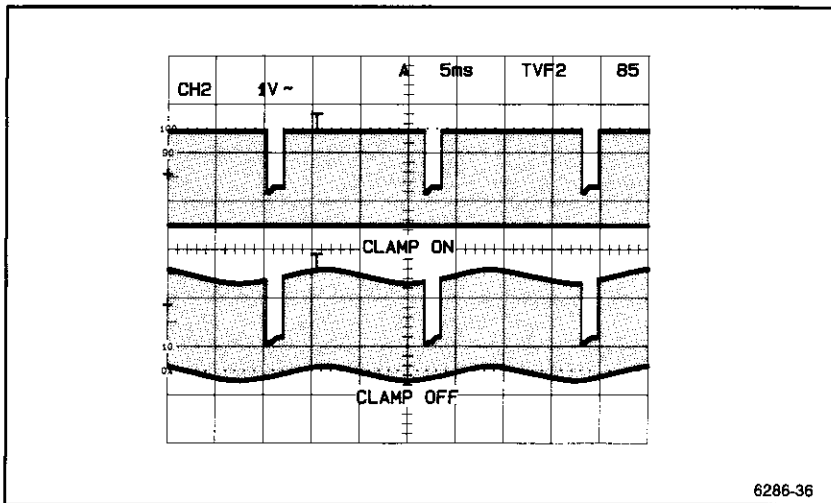

Figure 7-1. Composite Video Signal with and without TV clamping.
- h. With the CH 2 back-porch CLAMP enabled, observe that the ac hum on the waveform has been eliminated (see Figure 7-1).